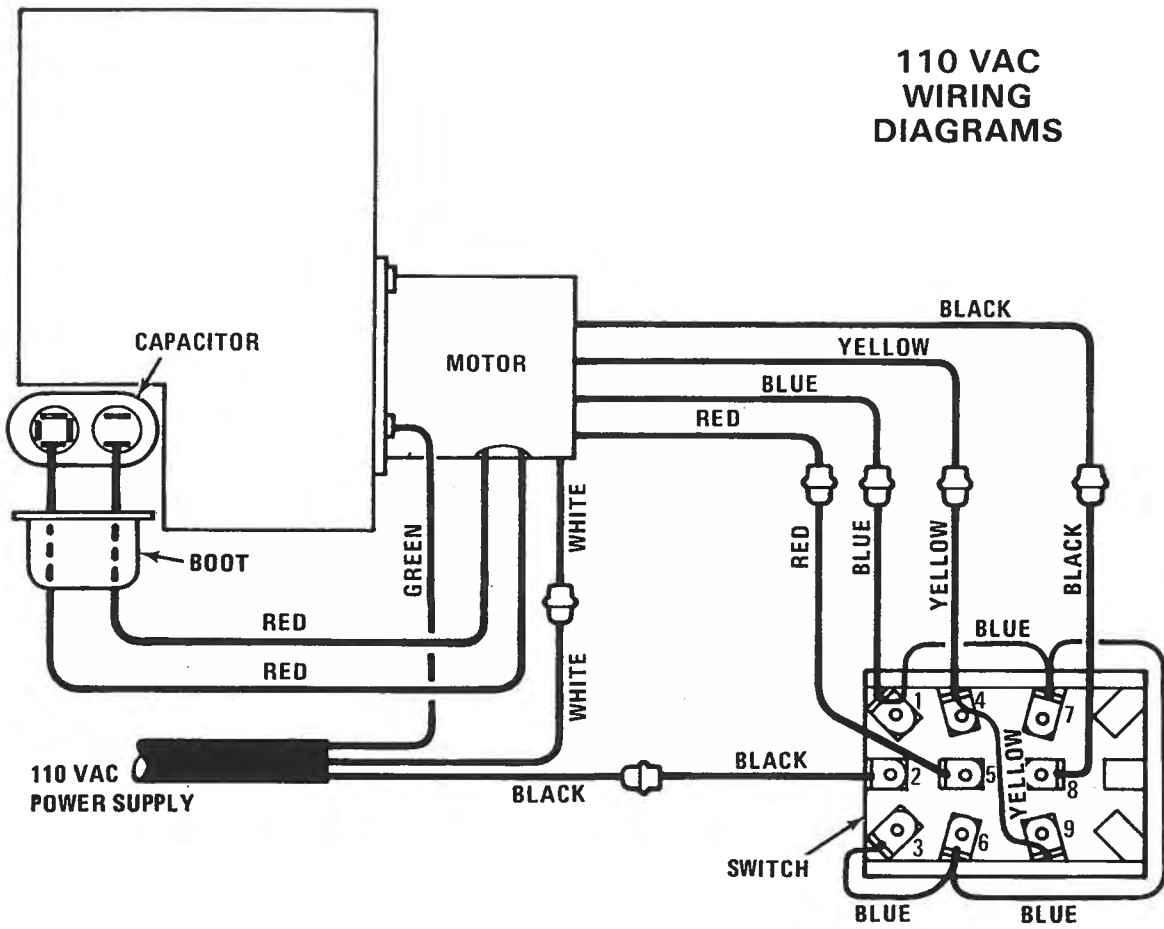
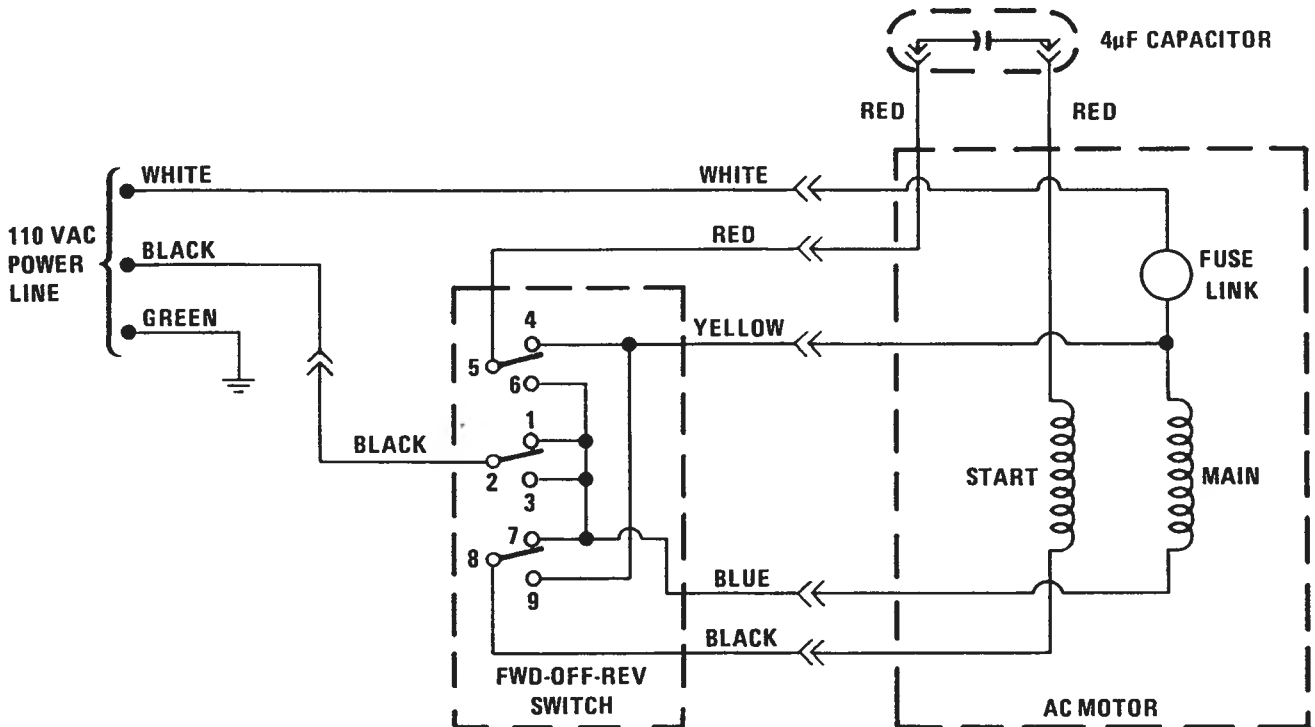

Figure 3-3. Pictorial Wiring Diagram, VCM-100
Figure 3-4. Schematic Wiring Diagram, VCM-100
\* See Wiring Diagrams, Figure 3-3 and Figure 3-4.
4. Disconnect the black and white power line leads and the green ground wire. (See Figure 3-3.)
4. Disconnect the five switch leads. Four of these are the red, blue, yellow, and black motor leads. The fifth switch lead to be disconnected is the black line from the power cord. (See Figure 3-3.)